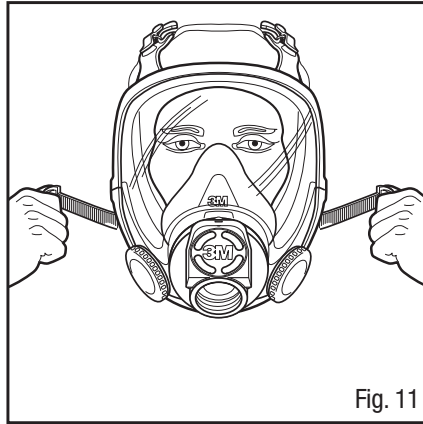

Fig. 11
2. Pull the ends of the four straps to adjust tightness, starting with the neck straps first, then the forehead straps. Do not overtighten the straps (Fig. 11).